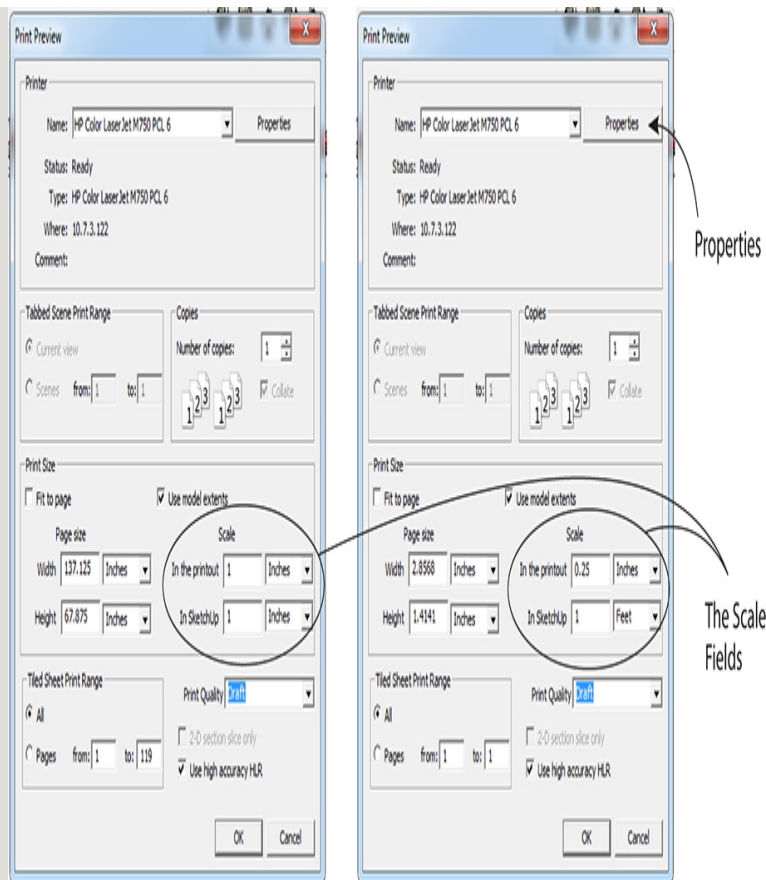

Figure 7-40 Type as shown in the text fields to print the model full scale (*left*) or $\frac{1}{4}" = 1'0"$ (*right*).
- **Scale.** This is the ratio of printed size to actual size. Look at the Scale fields (Figure 7-40). To make the print full size, type the following: *In the Printout*, type **1**, and select any unit from the adjacent field's drop-down menu. *In SketchUp*, type **1**, and select the same unit from the adjacent field's dropdown menu. To scale the print at $1/4" = 1'0"$, type the following: *In the Printout*, type **1/4** or **.25**, and choose Inches. *In SketchUp*, type **1** and choose Feet.